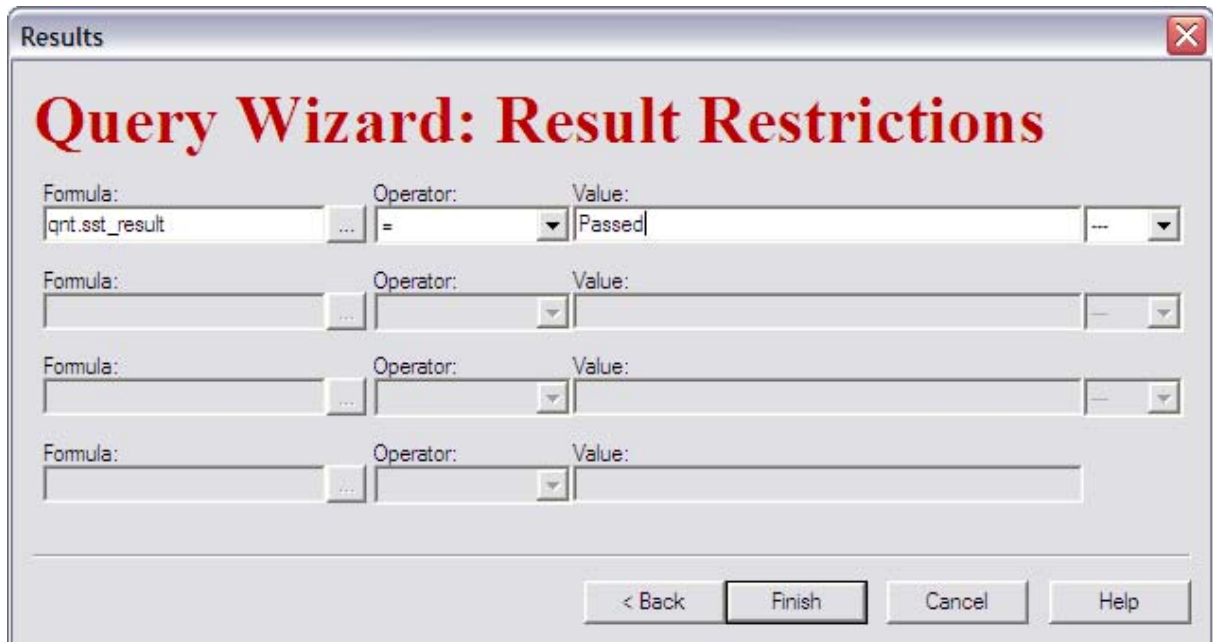

FIGURE 3-28: Results restrictions in the **Query Wizard**.
4. Result restrictions can be set in FIGURE 3-28. For Automated Method Scouting, the SST result of the quantification method (**qnt.sst_result**) is used to restrict the results. This will limit the results to samples that have passed the SST as defined above.